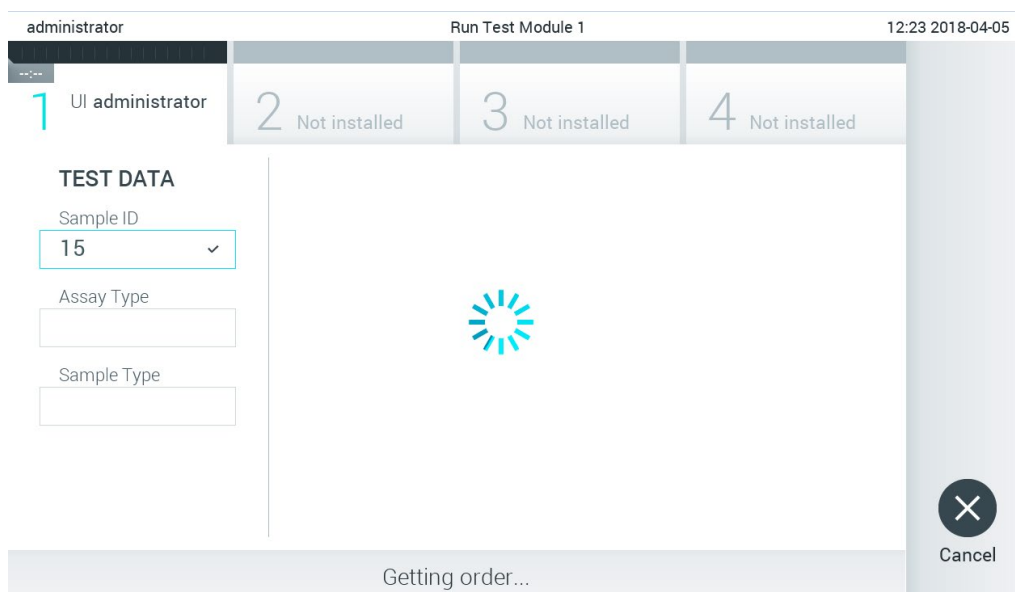

Figure 83. Display during test order retrieval.
3. The sample ID will be sent to the host and while the QIAstat-Dx Analyzer 1.0 waits for a test order, the message “Getting order...” is displayed (Figure 83).